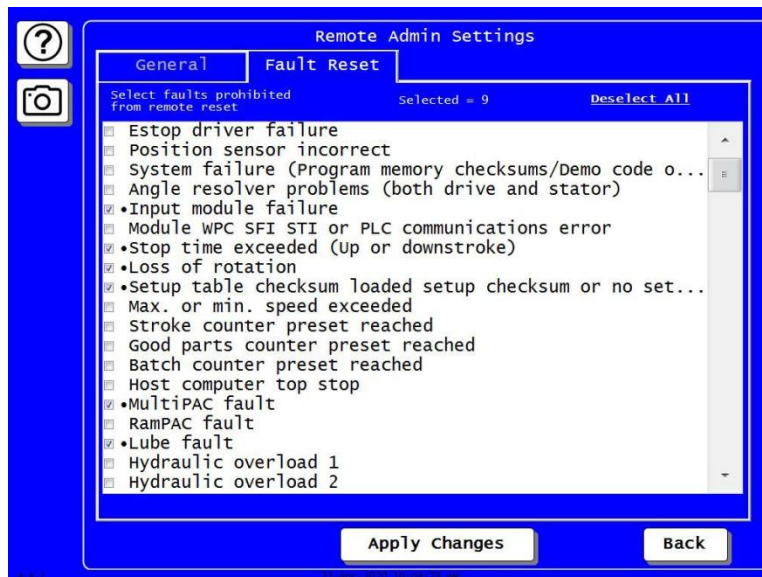

Figure 8 - The Fault Reset Tab
- **Prohibit Any Fault Reset** – When checked, remote users will not be allowed to reset any SmartPAC PRO fault message. If you wish to allow remote users to reset some fault messages but not others, leave this box unchecked and go the Fault Reset tab (see Figure 8).